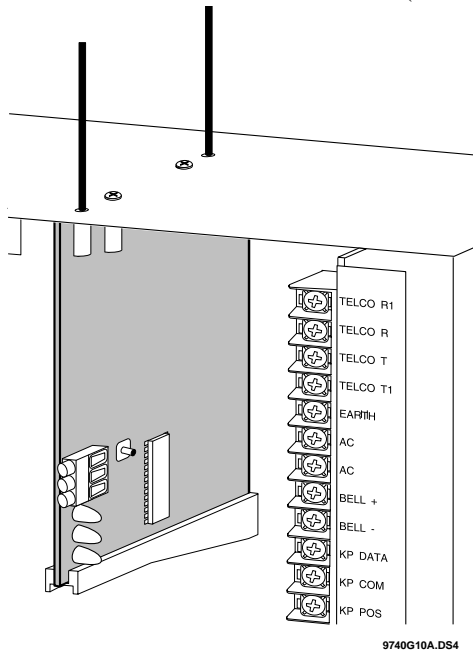

Figure 4. Inserting the Antennas
5. Insert the antennas through the holes on top of the cabinet and into the module antenna sockets (see Figure 4).